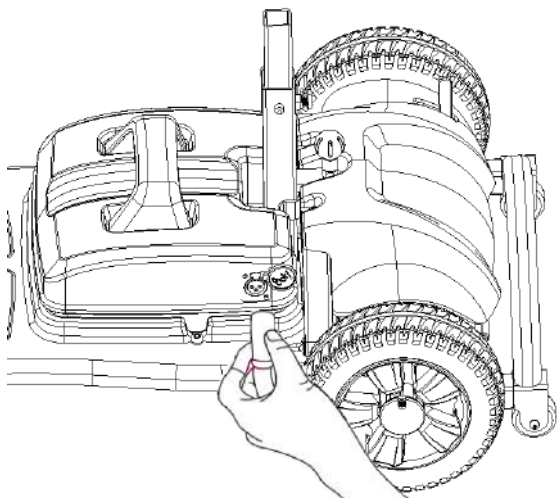

Fig. 5.1.1
3. Pull upward on the swivel-release lever to remove the seat from the seat post. – Remove the plug of power cable from the battery pack. (See the Fig. 5.1.1)